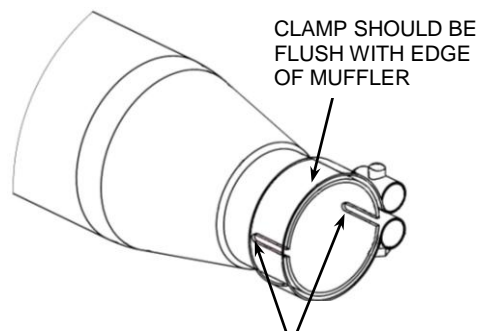

FIGURE 2 DO NOT SLIDE CLAMPS PAST SLOTS
11. Tighten the muffler clamps. (NOTE: The muffler clamps should be flush with the end of the muffler when tightened. **See Figure 2.** If the muffler clamps are slid past the slots on the slip collar the clamps will not tighten the mufflers properly).